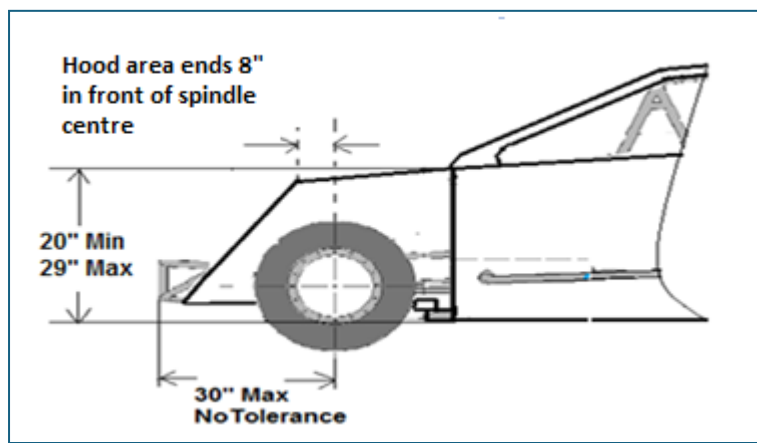

Figure 5
- **Hood** means the front section of the car body that extends from the front of the windscreen to 8” in front of the centre of the front spindle. (Figure 5&6).
- **Nose** means the front section of the car body that extends from the front of the hood to the front bumper (Figure 5).
- 8.1. Hood height (excluding air filter and any plastic or sheet metal cover used to protect the air filter) must not be less than 20 inches or exceed 29 inches max (No tolerance). The hood height is the vertical measurement from the bottom of the lowest point on the main frame rail to the top of the hood (*Figure 5*).
- 8.8 Front of bumper may not extend more than 30 inches forward of spindle centre (No tolerance). Measurements to be taken from centre of either front spindle to the outside of front bumper (*Figure 5*).